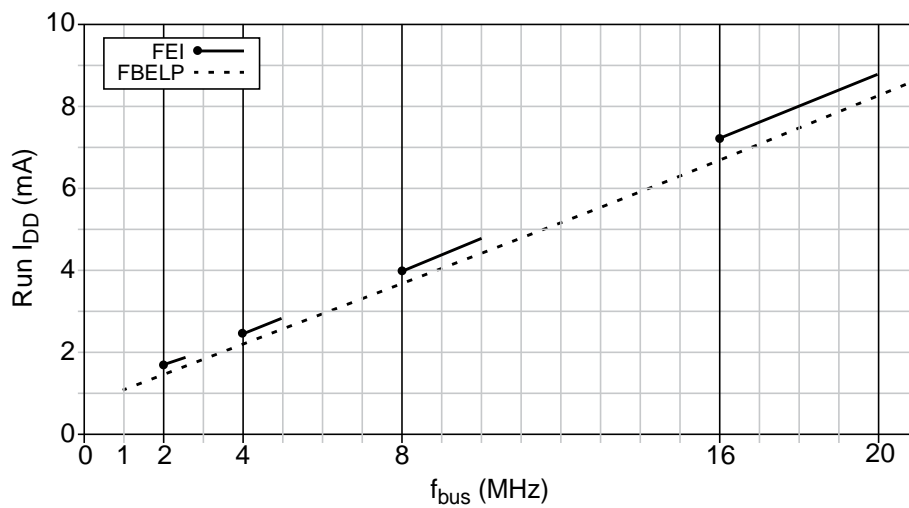
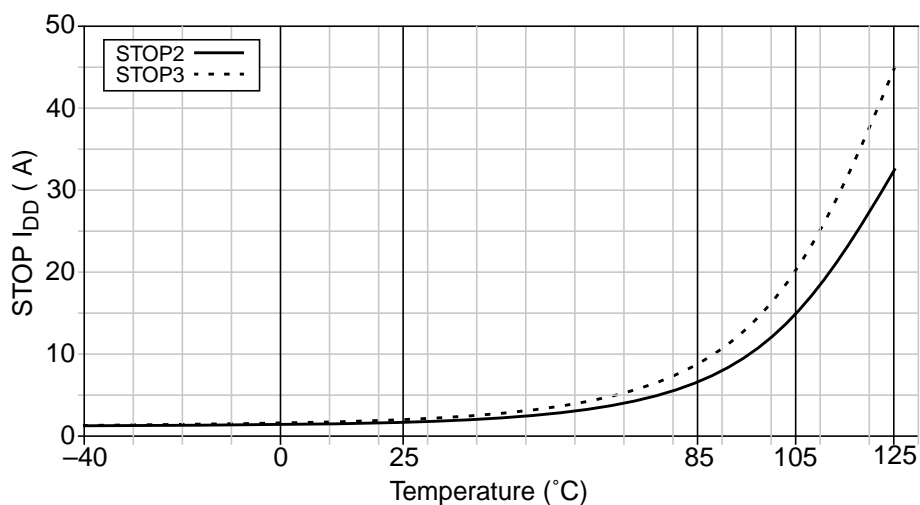

Figure A-5. Typical Run I_{DD} vs. Bus Frequency ($V_{DD} = 5V$)
Figure A-7. Typical Stop I_{DD} vs. Temperature ($V_{DD} = 5V$)
- ¹ Typical values are based on characterization data at 25°C. See Figure A-5 through Figure A-7 for typical curves across voltage/temperature.